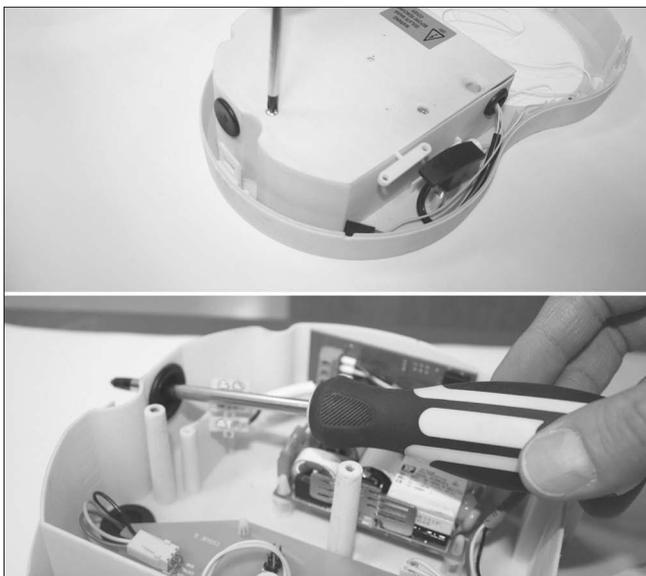

Fig.6A
- 6 Detach the electronics lid from the centre assembly by removing the screws. Then using a screwdriver pierce through the grommet (Fig.6A).